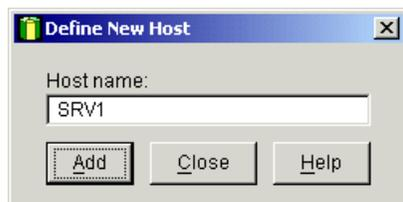

Figure 5-25 Define New Host window
4. The Define New Host window is displayed. Enter the name of your server (we used SRV1) and click **Add** to continue (see Figure 5-25):